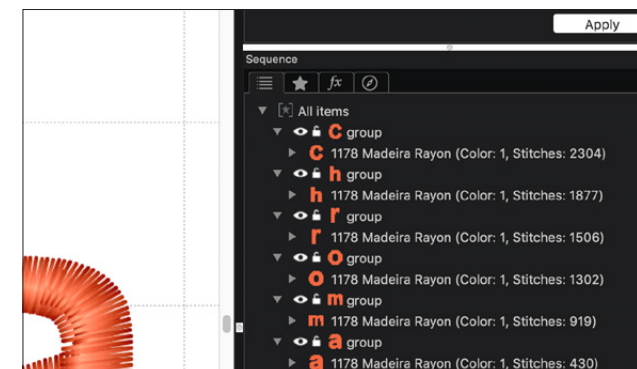

Figure 45
- **Sequence Menu:** You can change the order that the lettering embroiders in. **See Figure 45.**